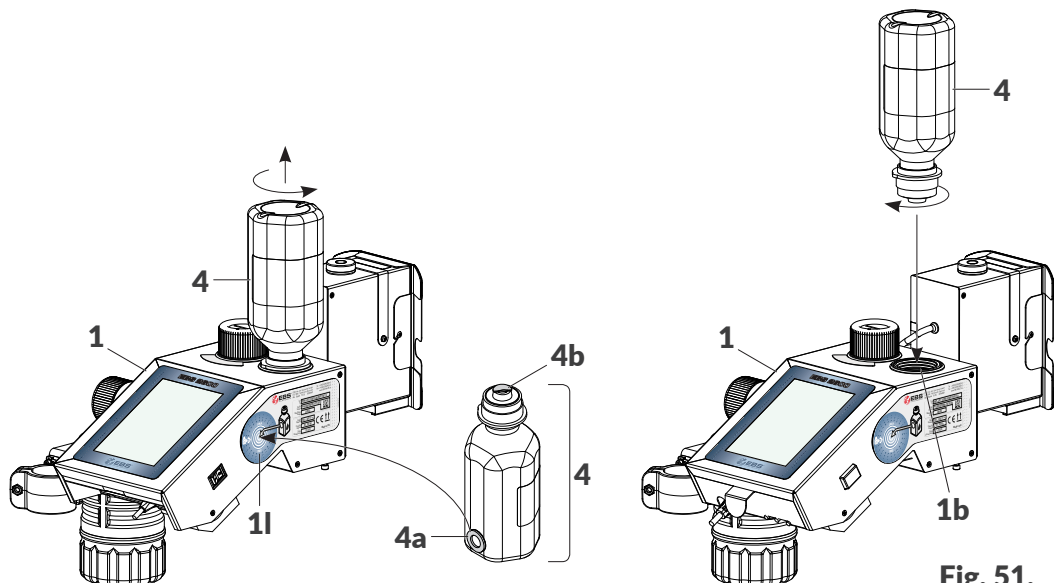

Fig. 51.
4. Unscrew empty bottle **4** (see **Fig. 51**).